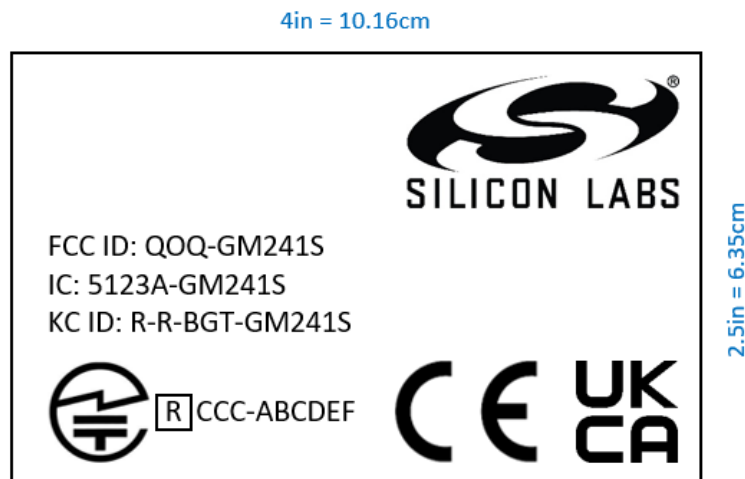

Figure 2: Label of BGM241S22A modules, dedicated to carry information concerning regulatory certifications
- The sticker label in figure 2 is meant for the anti-static bag containing the modules' reel or tray: it is a way to convey the certification-related information as closely as possible to the modules, in addition to the same information already available in the user manual / datasheet.